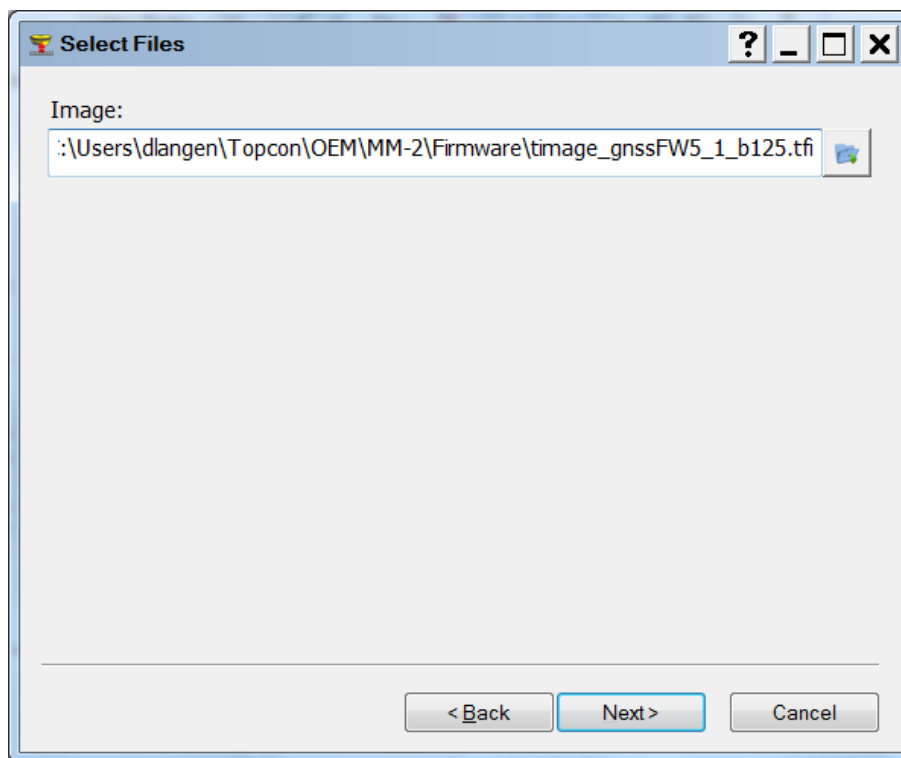

Figure 62: Locate and Select Firmware
- Verify that the information is correct, and click **Next**. The **Select Files** screen appears (Figure 62 on page 50).